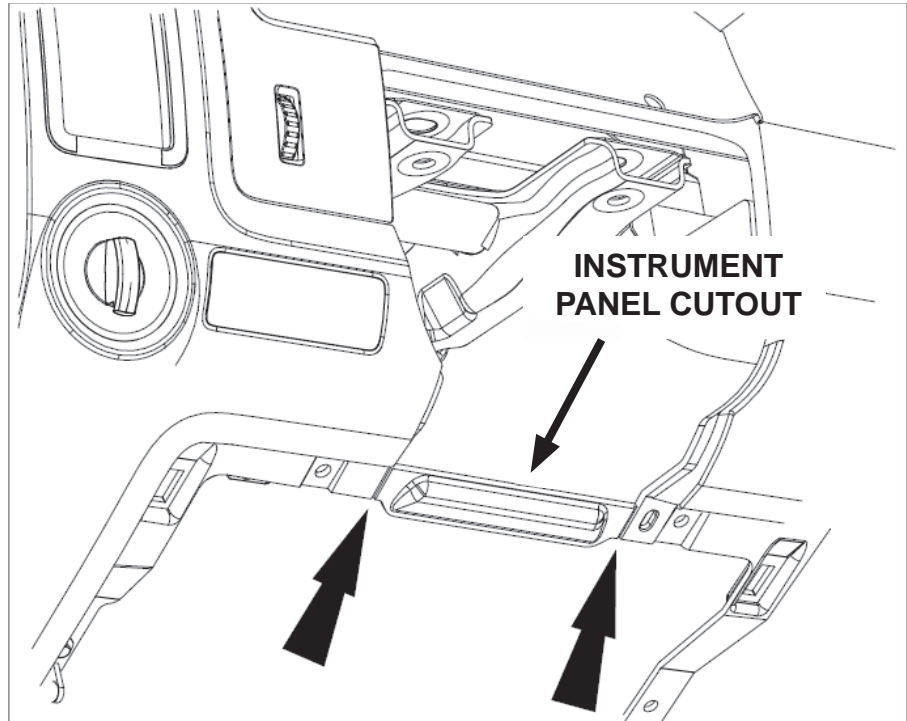

FIGURE 2
6. If vehicle is equipped with instrument panel cutout, use a suitable cutting tool to carefully cut through the two cutoff lines and discard the instrument panel cutout. See Figure 2.